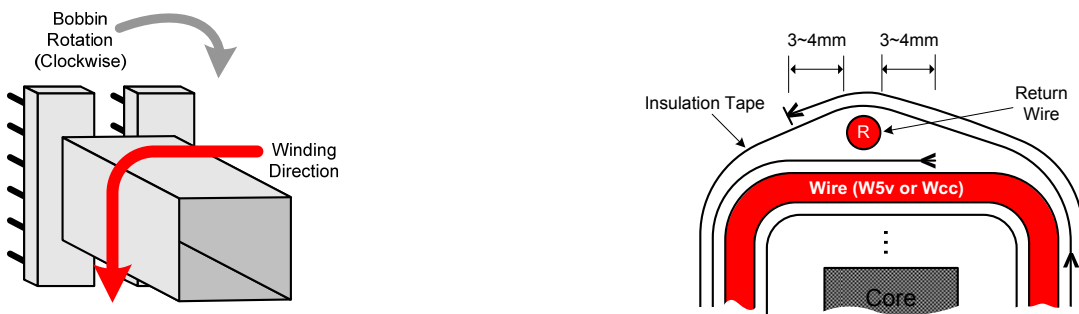
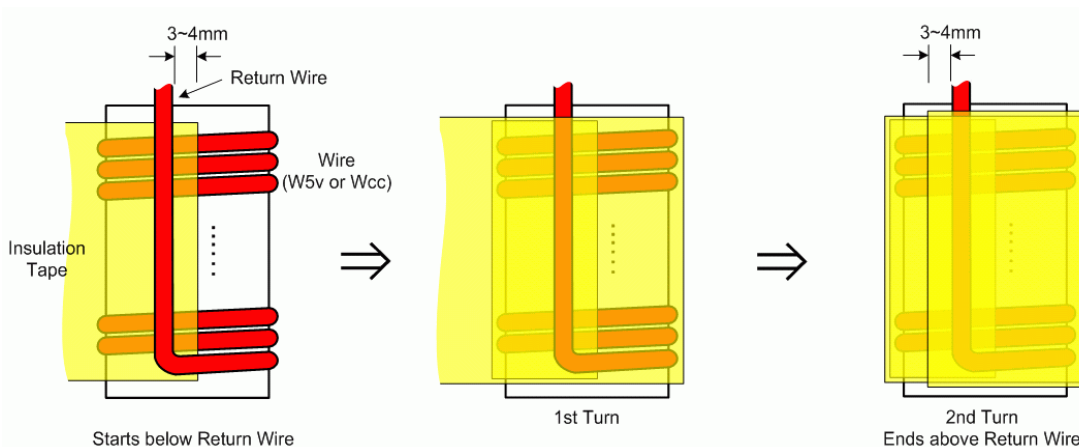

Figure 27. Winding Direction for Each Winding (Left) and Cross-Sectional View for W5v / Wcc Insulation Taping (Right)
Figure 28. Details on W5v / Wcc Insulation Taping
- 11. See Figure 27 (right) and Figure 28 for details.